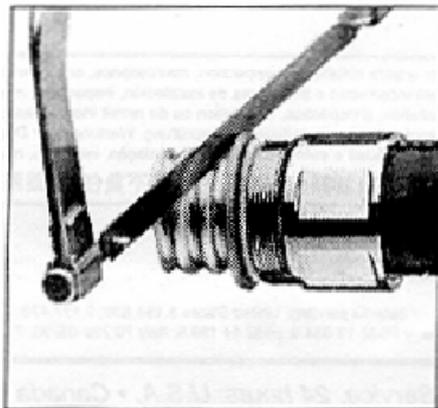

Figure C-14 Cutting cable
- 8) Adjust the hacksaw and the hacksaw guide (big washer) to cut the cable, as shown in Figure C-14.